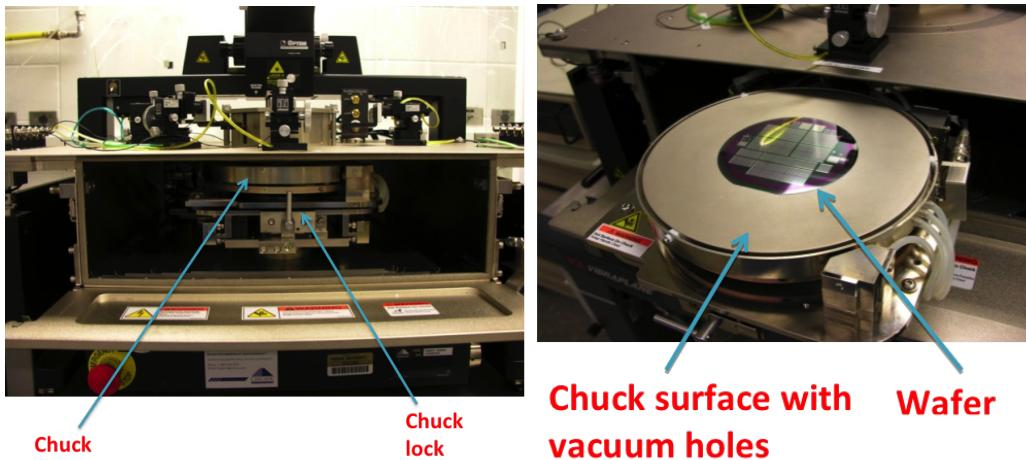

Figure 6: Chuck and loading surface.
- (b) Next, open the probe station micro-chamber door. A message will be displayed saying that the wafer access interlock is open. The chuck and chuck interlock should be visible as shown in Figure 6. Unlatch the chuck interlock and pull out the chuck. Pull the chuck all the way back until you feel a click. The chuck should now be held in place and will not go back after you let go of the latch.